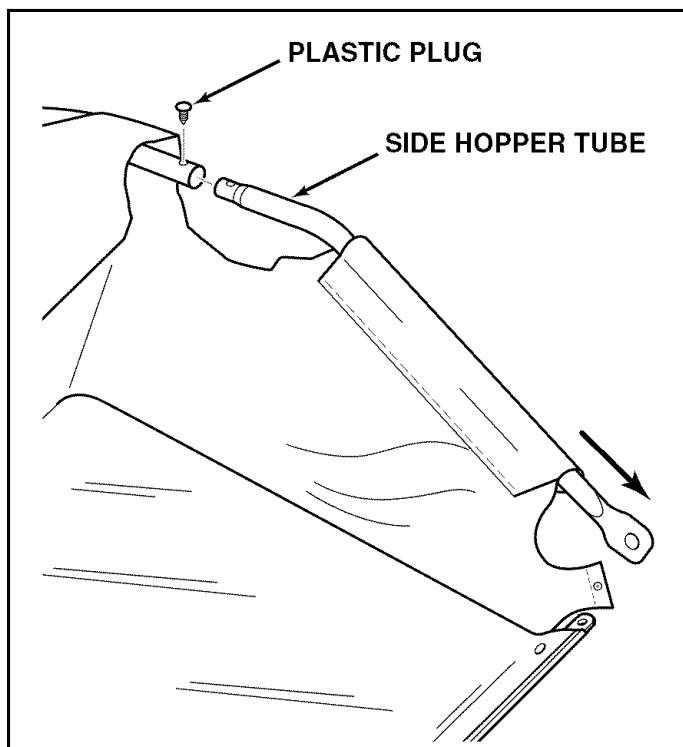

FIGURE 9
- Insert the two side hopper tubes through the stitched flaps on each side of the hopper bag. See figure 9.
- Assemble the ends of the upper hopper tube onto the ends of the side hopper tubes. Fasten together using plastic plugs. See figure 9.